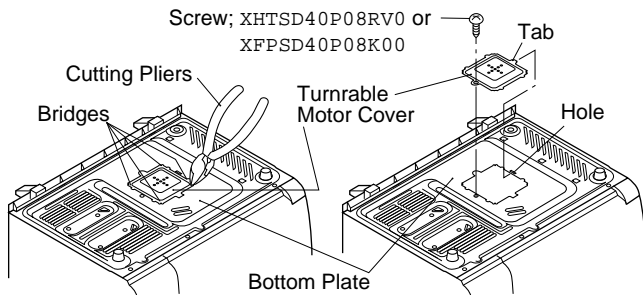
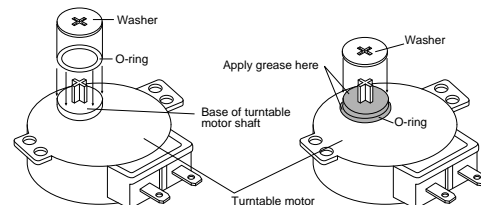

Figure C-3. Turntable Motor Cover
Figure C-4. Washer and O-ring Installation and Grease Applying.
4. Cut the four (4) bridges holding the turntable motor cover to the bottom plate with the cutting pliers as shown in Figure C-3.
3. Apply the grease (Shinetsu silicone grease G-420 of Sinetsu Chemical Co. Ltd. or Toray Silicone grease SH-14 of Toray Silicone Co., Ltd.) to the O-ring and the base of the turntable motor shaft as shown in Figure C-4.
4. Re-install the turntable motor with the O-ring and washer to the oven cavity with the single (1) screw.
6. Insert the tab of the turntable motor cover into the hole of the bottom plate as shown in Figure C-3.
7. Re-install the turntable motor cover to the bottom plate with one (1) screw XHTSD40P08RV0 or XFPSD40P08K00 as shown in Figure C-3.